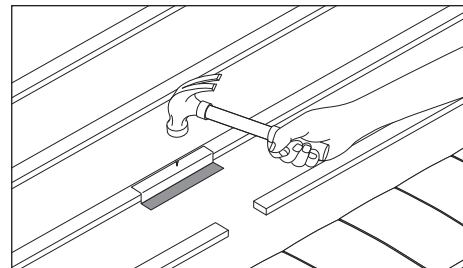

Fig. 5 – Cut and nail back underlay
- 4 Nail flap to top of tiling batten (Fig. 5).